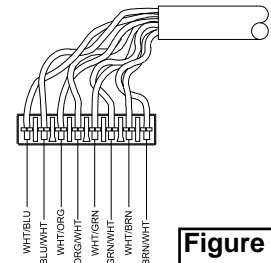

Figure 4
See Figure 4.
- 4) Without untwisting cable, position the wires in individual slots per *Figure 4*.
- 3) Position pairs over color-coded slots on the connector. *See Figure 4.*